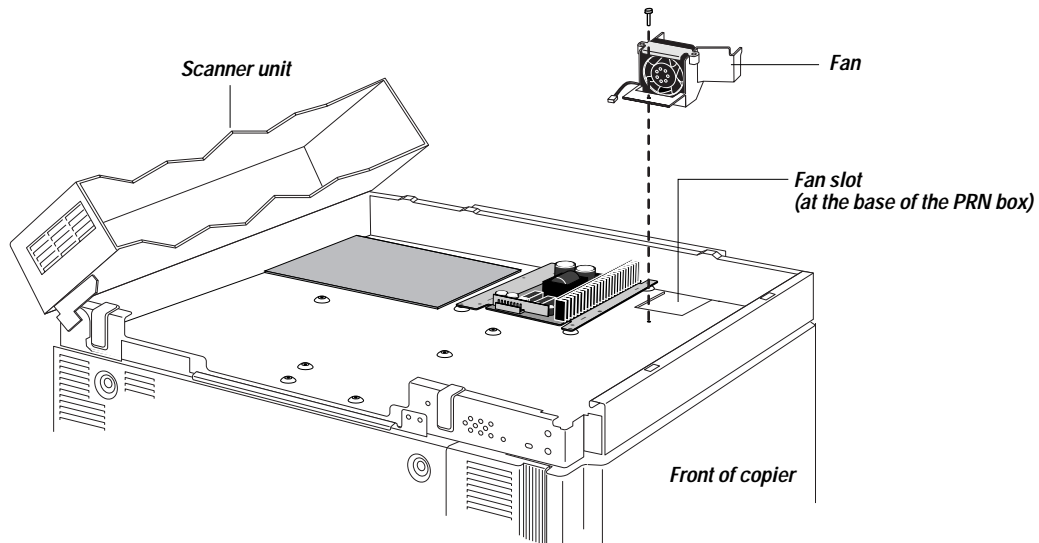

Figure 2-8 Installing the fan
3. *With the fan label facing the edge of the copier, angle the fan so that the bottom of it rests in the slot (see Figure 2-8).*